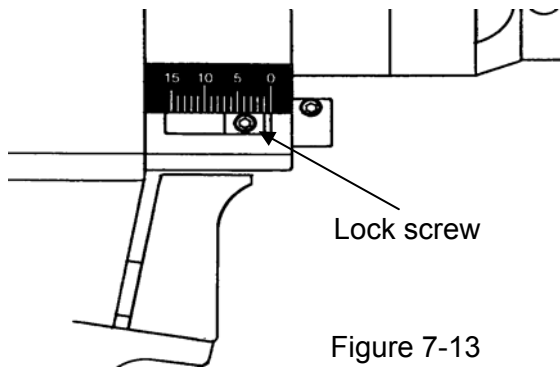

Figure 7-13
- h) Loosen the lock screw on the Control Nut and turn the Control Knob clockwise until the Control Nut stops at the end of its movement, and then tighten the lock screw (Figure 7-13).